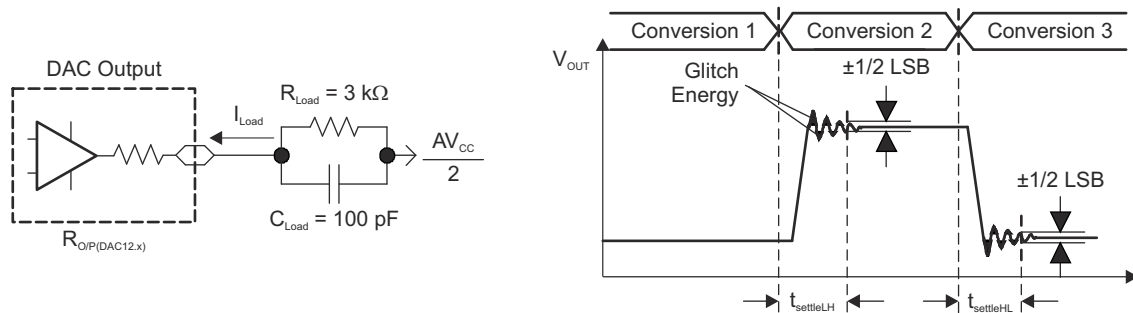
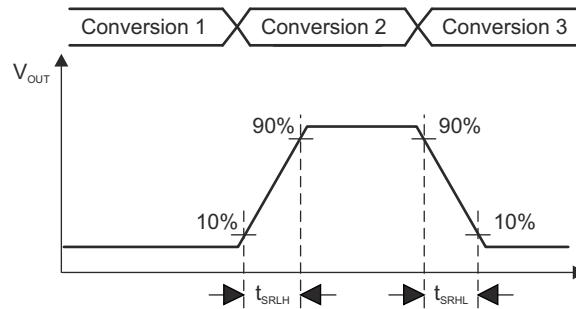

Figure 8-19. Settling Time and Glitch Energy Testing
Figure 8-20. Slew Rate Testing
V_{REF} = V_{CC}, DAC12IR = 1 (see Figure 8-19 and Figure 8-20), over recommended ranges of supply voltage and operating free-air temperature (unless otherwise noted)
- (1) R_{Load} and C_{Load} connected to AV_{SS} (not AV_{CC}/2) in Figure 8-19.
(2) Slew rate applies to output voltage steps ≥200 mV.